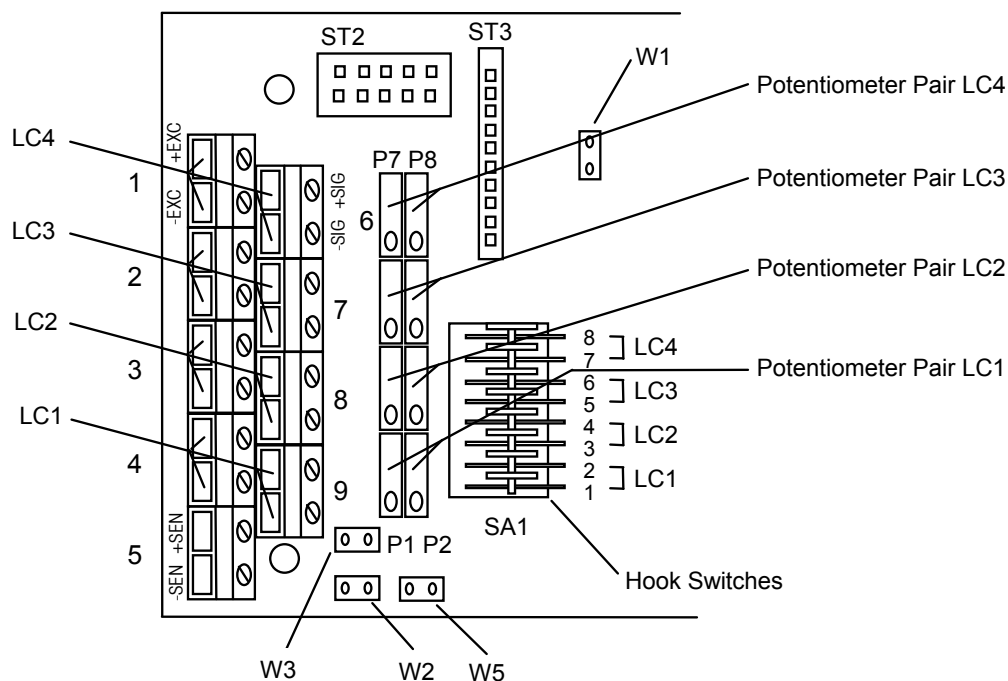

Figure 4-1: IDNet Potentiometer Adjustment
Perform the shift adjustment, using the load cell trim potentiometers mounted on the PCB inside the IDNet junction box (see Figure 4-1).
2. Activate the trim potentiometers by opening the eight hook switches (if they are not already open) on the PCB (see Figure 4-1). Once activated, the switches remain open. Do not close the latches, even after completing the shift adjustment.